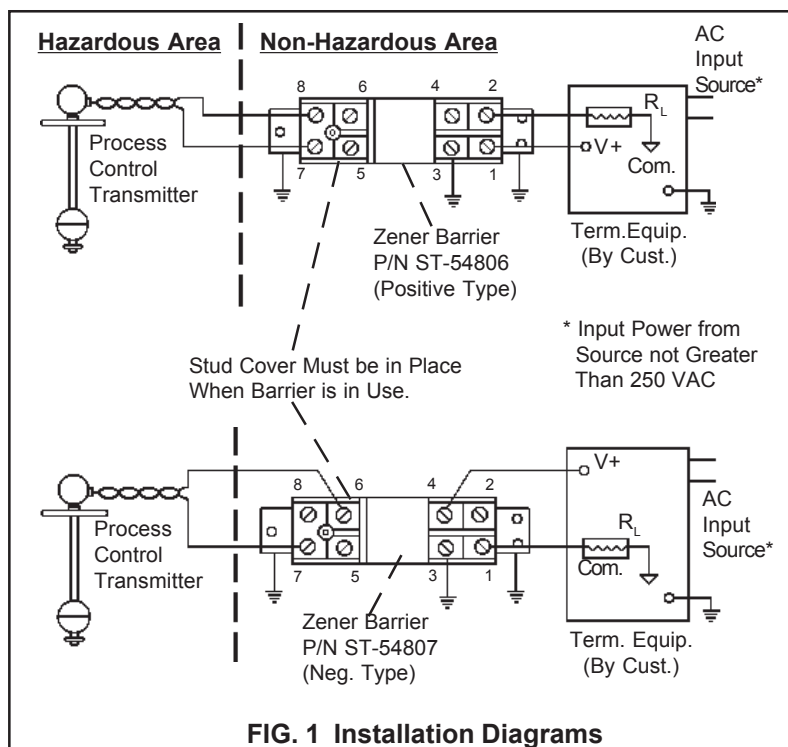

FIG. 1 Installation Diagrams
1. Only one sensor and one receiving station per channel may be connected to a barrier. (See Fig. 1) The nature of the sensor must be that it is a non-voltage-producing, resistive termination containing no energy-storing devices.